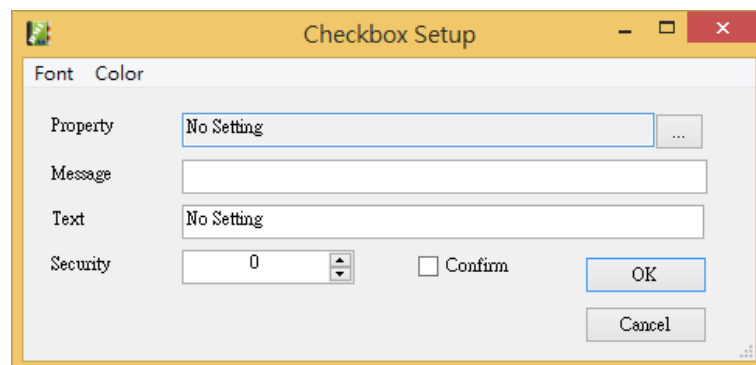

Figure 4-16 Checkbox setup
- 8 Checkbox control item : Digital type of data can be selected by way of a checkbox for user input, If the target attribute is analogous data will not be able to change the value of the control item ◦ The setting items are as Figure 4-16